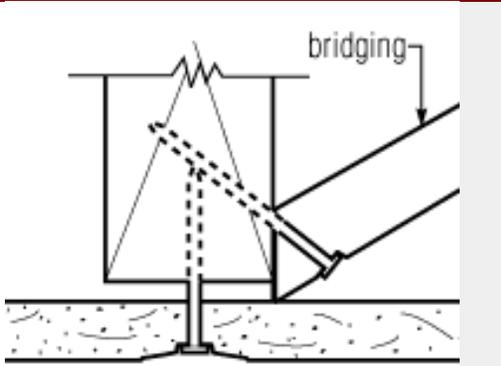

Fig. 4
**Cause:** Bridging, headers, fire stops or mechanical lines have been installed improperly so as to project beyond face of framing, preventing panels from contacting nail surface (Fig. 4). Result will be loose board, and fasteners driven in area of protrusion will probably puncture face paper.